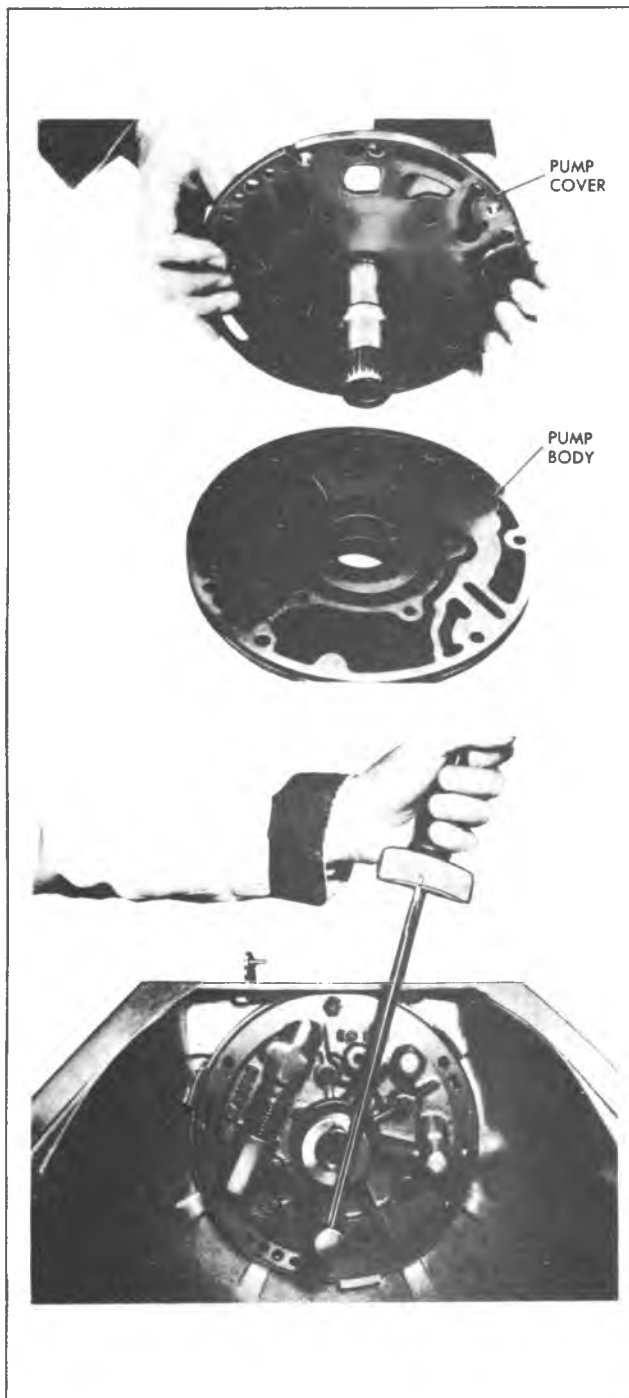

Fig. 7A-78C--Aligning and Installing Pump Cover to Pump Body
3. Install spacer(s) if used, retainer and spring, into pressure regulator bore (Fig. 7A-77C).
9. Install two (2) hook type oil seal rings.
10. Assemble pump cover to pump body with attaching bolts (Fig. 7A-78C). Leave bolts one turn loose at this time.
11. To align the pump body and cover, place the pump assembly, less rubber seal ring, upside down into the pump bore of the case (Fig. 7A-78C).